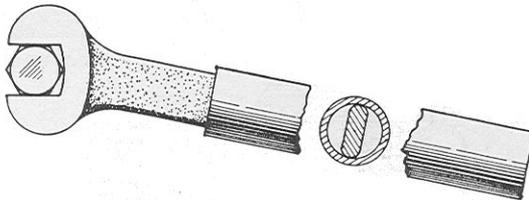

Fig. 11. Wrench with a Section of Pipe on the Handle
3. When doing heavy work and you are sure that the bolt and the wrench will stand the strain, you can secure greater leverage by putting a piece of pipe over the wrench handle, as shown in Fig. 11. Good judgment must be used when this is done.